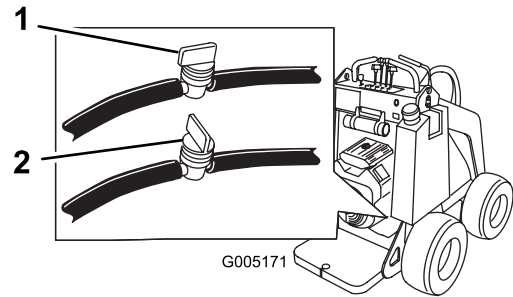

Figure 26
2. Shut off the fuel valve on the bottom of the fuel tank (Figure 26).
3. Shut off the fuel valve in the hose near the bottom of the fuel tank (Figure 26).
8. Open the fuel valve in the hose near the bottom of the fuel tank as illustrated in Figure 26.